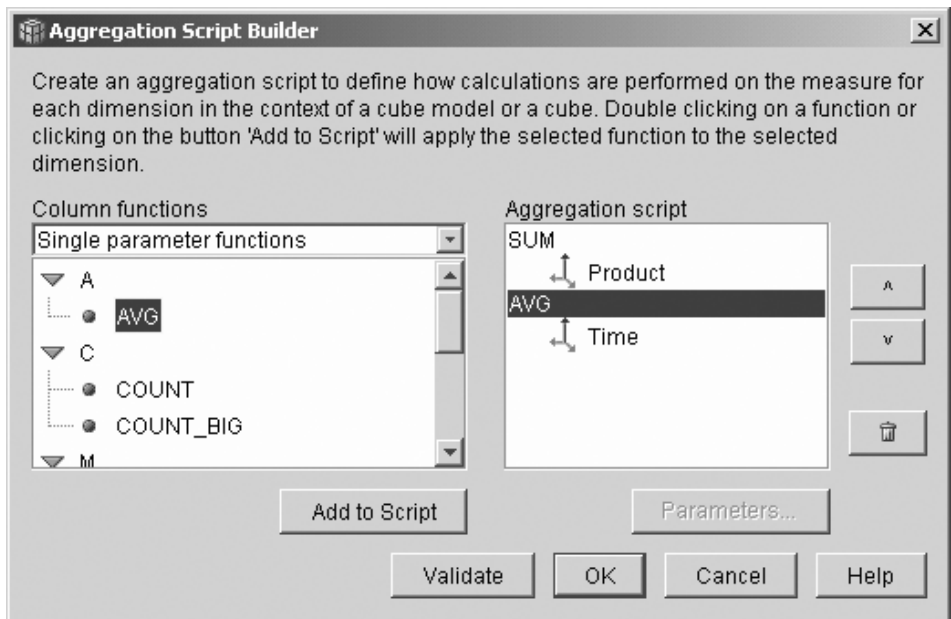

Figure 2. Aggregation script for the Current Value measure
- f. If necessary, move the Time dimension down by selecting **Time** and clicking the  push button, so that it is the last dimension listed in the script. Then with the Time dimension selected, double-click the **AVG** function in the **Column functions** list. The aggregation script, as shown in Figure 2 on page 6, sums the data across all of the dimensions except Time, over which the data is averaged.